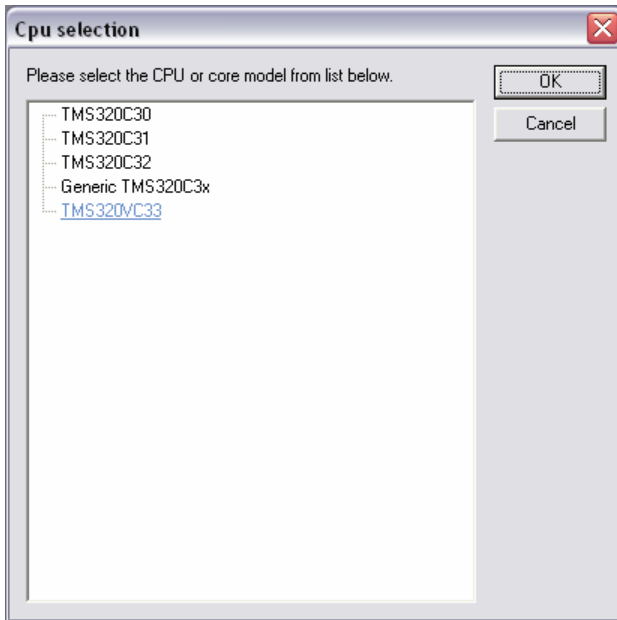

FIGURE 6 Selecting the target CPU model.
7. Specify the CPU model you intend to emulate (Figure 6).